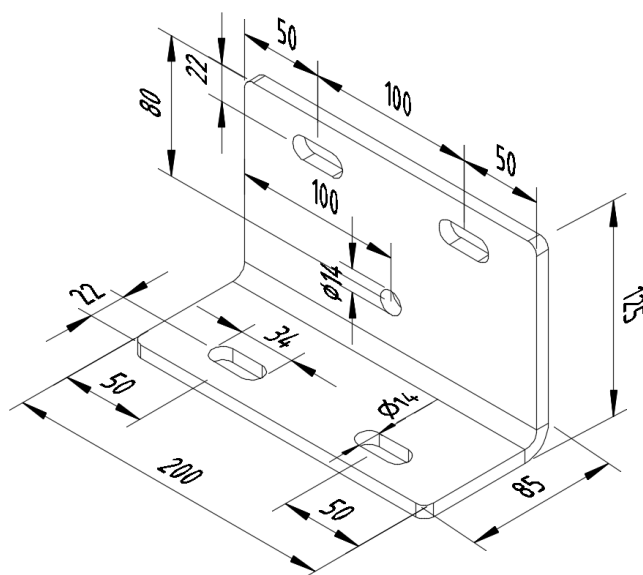
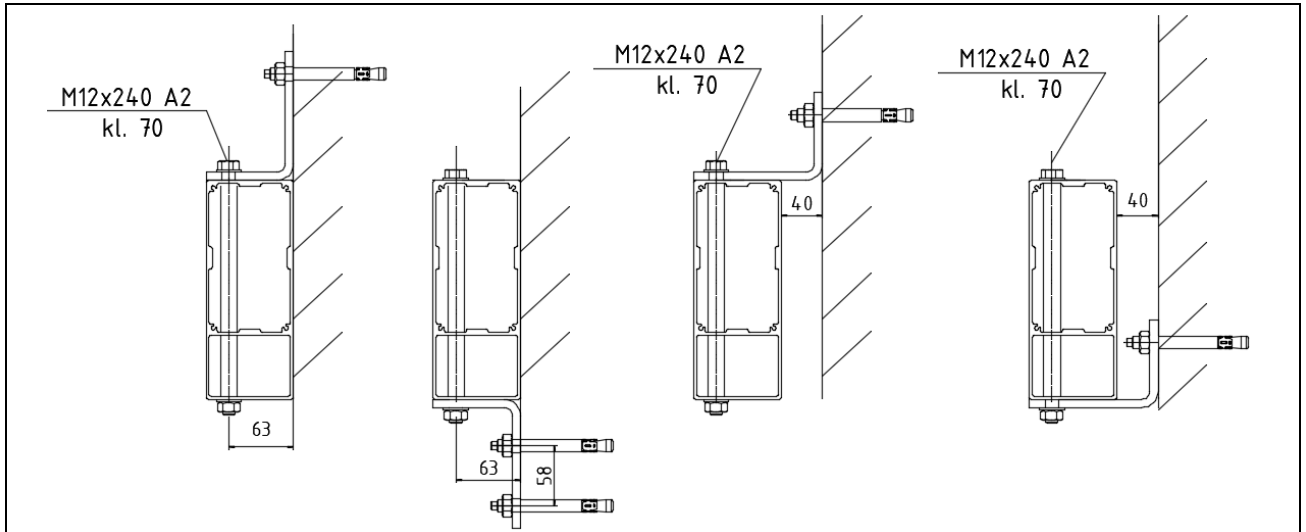
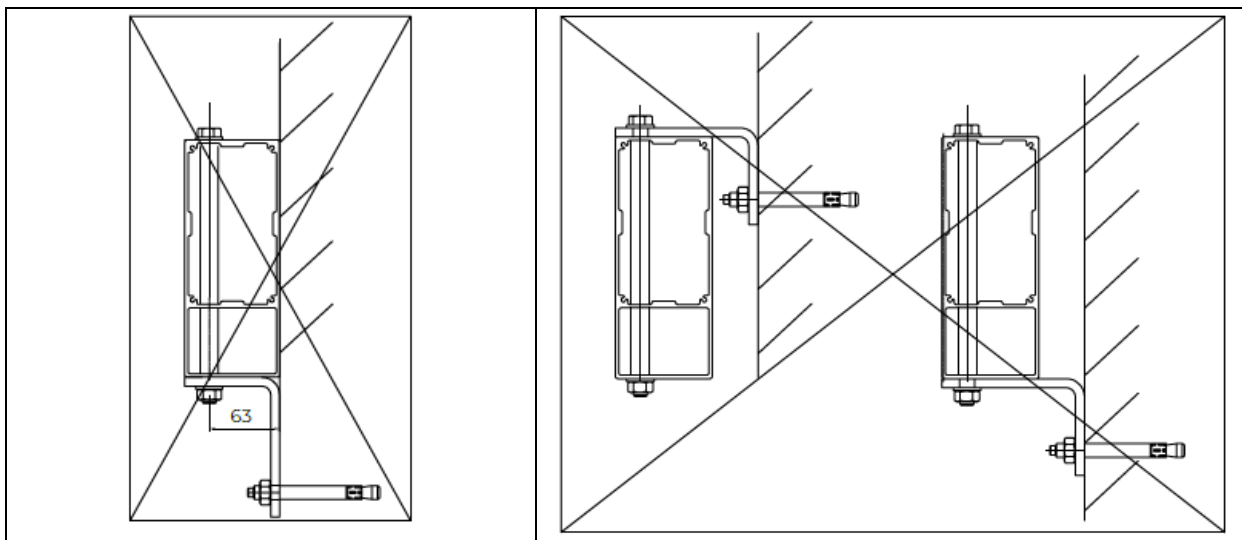

Figure 57 – Universal wall bracket (2 possible settings)
Figure 58 - Universal wall bracket – acceptable installation methods
Figure 59 – Universal wall bracket – forbidden mounting methods
Wall brackets in the form of universal angle steel brackets (fig. 57). Permissible assembly methods according to Fig. 58. Forbidden installation methods according to Fig. 59.
<p>ATTENTION: Mounting the bent brackets in the positions shown in fig. 59 is prohibited. It may result in breakage of the anchors and lack of load-bearing capacity of the fixing in the ground.</p>
**NOTE:** When determining the holes for the wall bracket, take into account the selected positioning of the wall bracket (fig. 58). The embedding must be carried out in the bearing substrate.